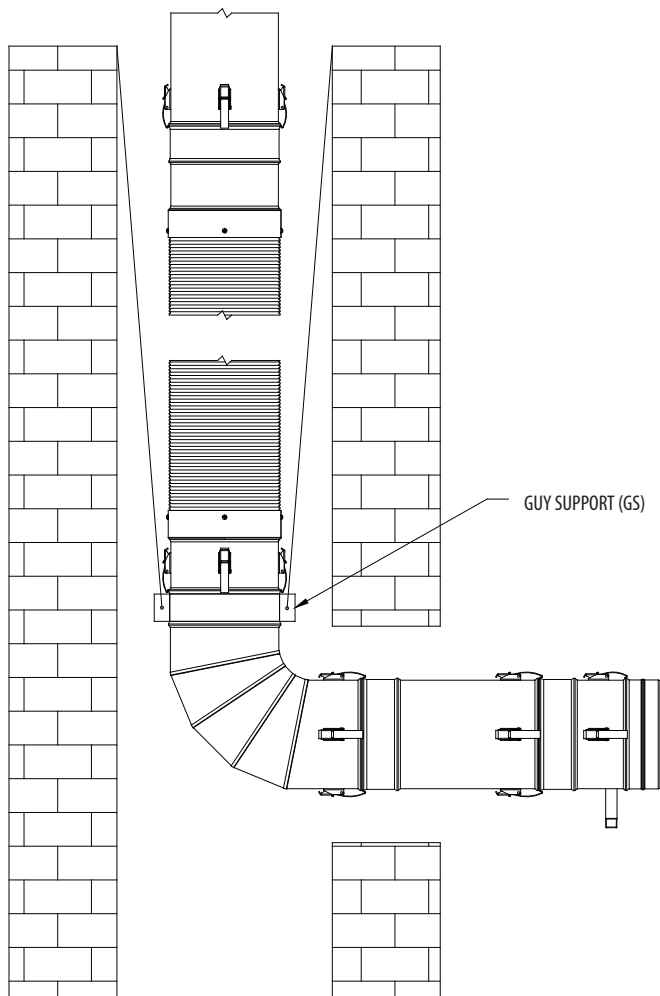

Figure 25- Secure Seal Flex Adapter - Elbow in masonry
- 4- The Secure Seal Flex must stay within the masonry chimney; however the Elbow or other Secure Seal components will extend beyond the masonry chimney. (Figure 25)